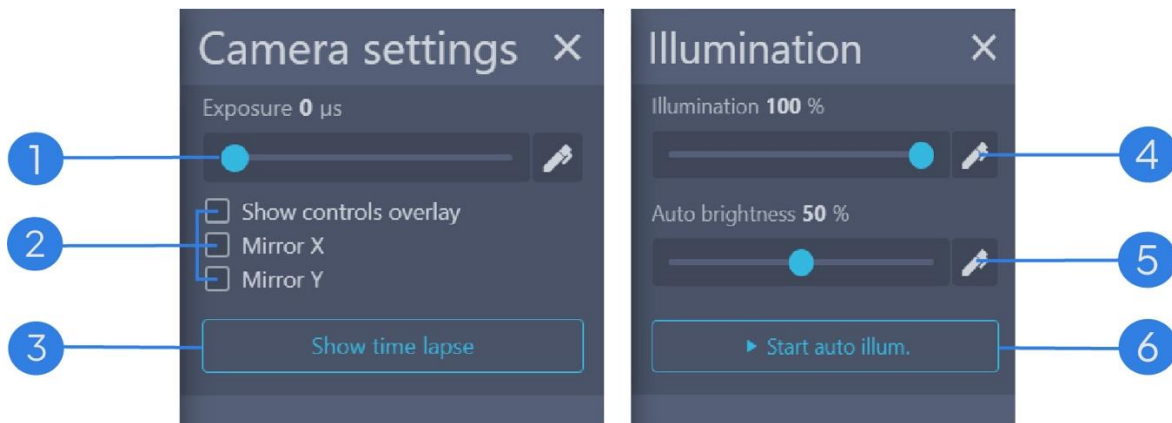

Figure 3. Camera settings window
4. Use *Camera settings* and *Illumination settings* (Fig. 3) to reach the desired image quality.